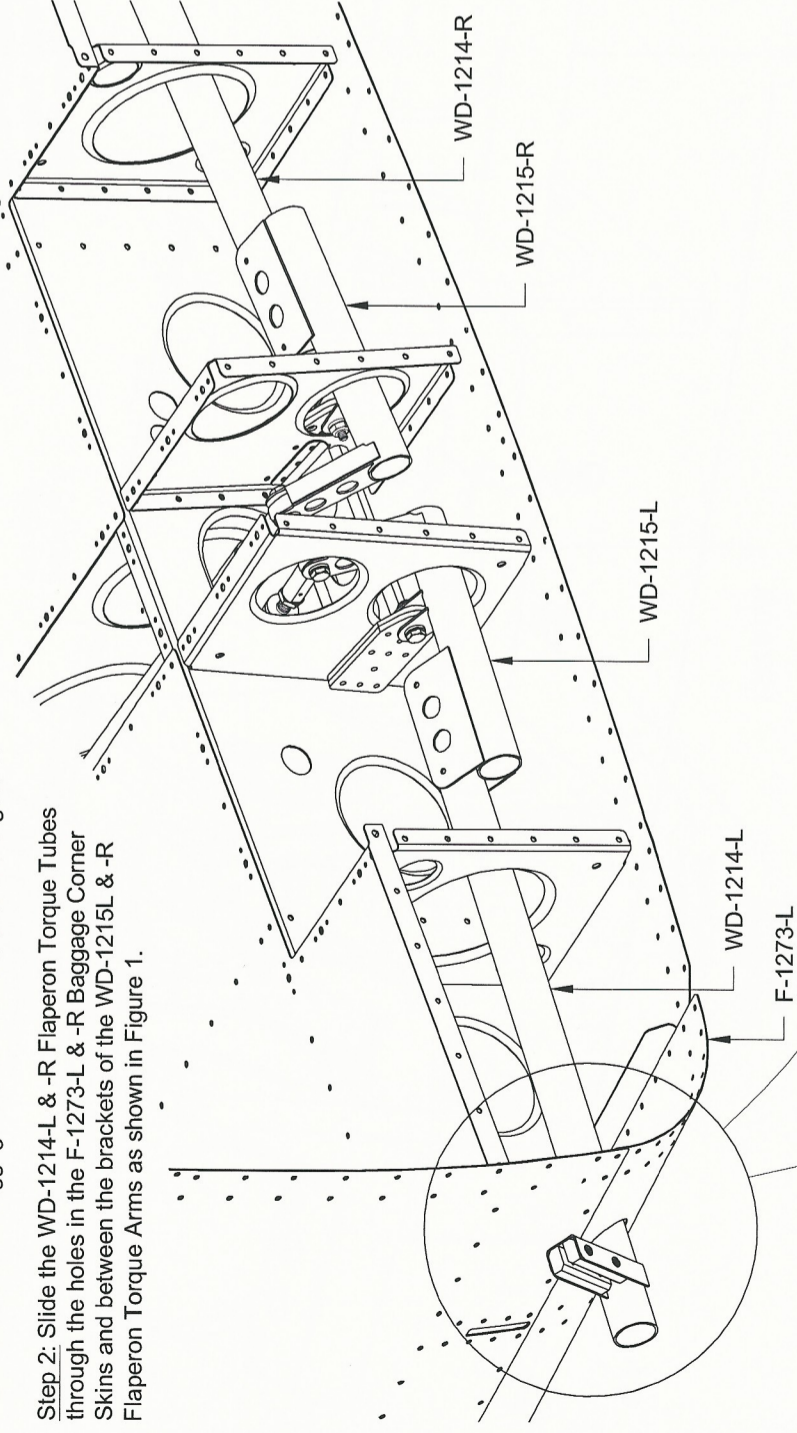

FIGURE 1: INSTALLING THE FLAPERON TORQUE TUBE
Step 1: From the 12 inch length of MS21266-1N Nylon Grommet supplied, cut two 3-3/16 lengths and install them around the edges of the holes in the F-1273-L & -R Baggage Corner Skins as shown in Figure 1.
Step 2: Slide the WD-1214-L & -R Flaperon Torque Tubes through the holes in the F-1273-L & -R Baggage Corner Skins and between the brackets of the WD-1215L & -R Flaperon Torque Arms as shown in Figure 1.